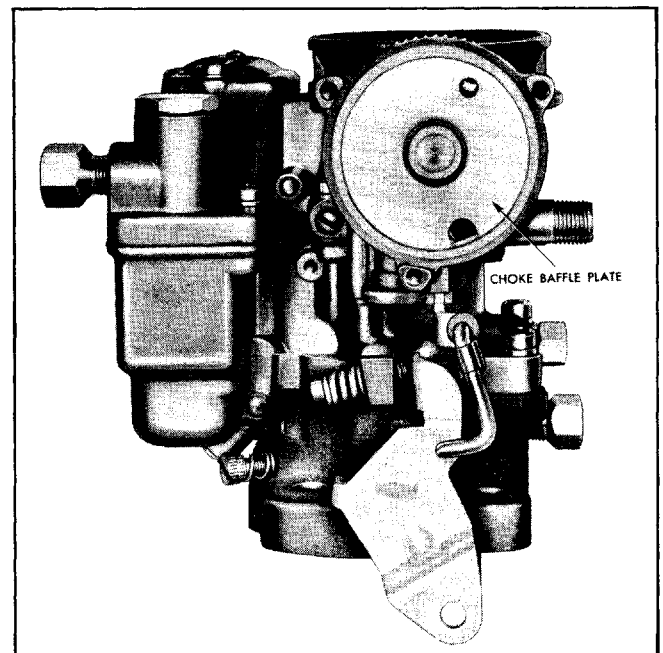

Fig. 6B-38 Choke Baffle Plate Installed—Carter
1. Install choke baffle plate and gasket as shown in Fig. 6B-38.